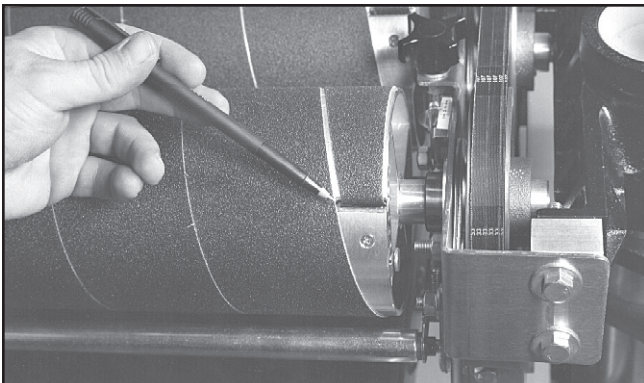

Fig. 16H Allow room inside slot for strip to move.
5. The take-up fastener is designed to automatically take up any slack caused by stretching of the abrasive strip. *Important: Position the abrasive strip in the slot with sufficient room between the inside of the slot and the tapered end of the strip to allow it to be pulled into the drum as needed (Fig. 16H). Note that not leaving enough space between the strip and the inside of the slot will prevent the take-up fastener from operating properly.*